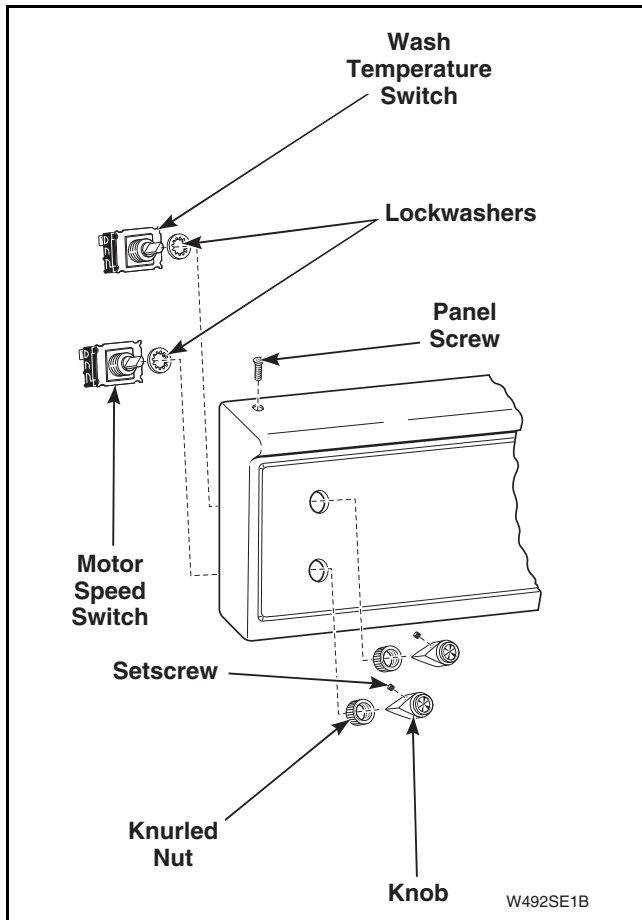

Figure 17
- (2) Loosen setscrew holding switch knob to switch shaft. Refer to *Figure 17*.
- (3) Remove knurled nut holding switch to control panel. Refer to *Figure 17*.
**NOTE:** Lockwasher must be between switch and control panel when installing switch. Refer to *Figure 17*.
- (4) Disconnect wires from switch.